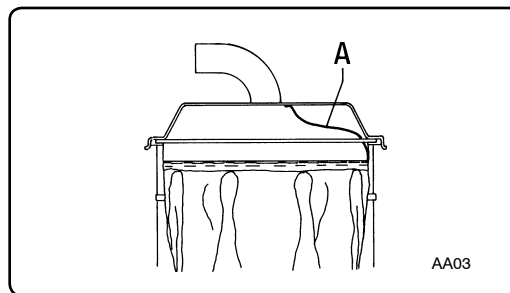

Fig. 7.5.5
7.5.3 - Changing the filter on "B1" version vacuum fig. 7.5.5